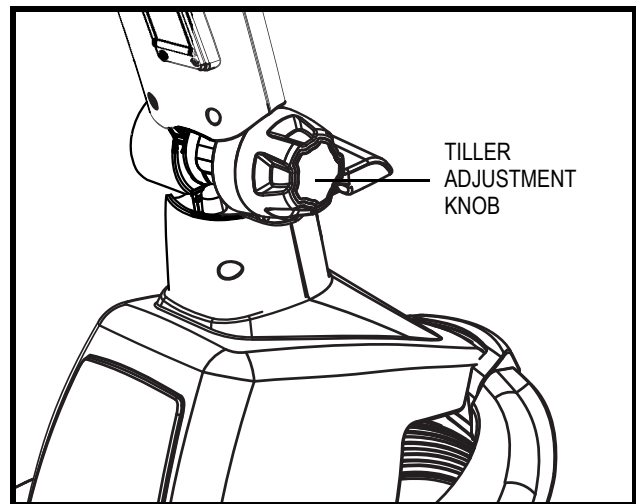

Figure 15. Tiller Adjustment
1. While supporting the tiller, turn the tiller adjustment knob counterclockwise to loosen the tiller. See figure 15.